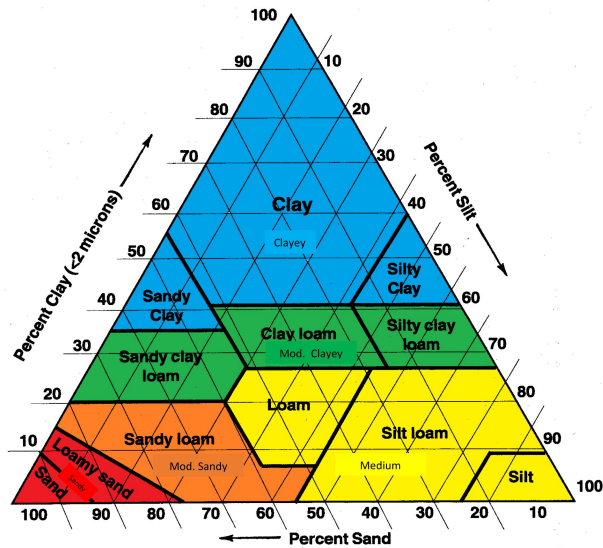

Figure 5: Chart of soil types
- (g) Soil: Durham (LCOS – Loamy Course Sand). Figure 5 shows a "soil triangle" chart. Figure 6 shows the specifications for the Durham LCOS soil type. Note that Durham soil is 67.7% sand!